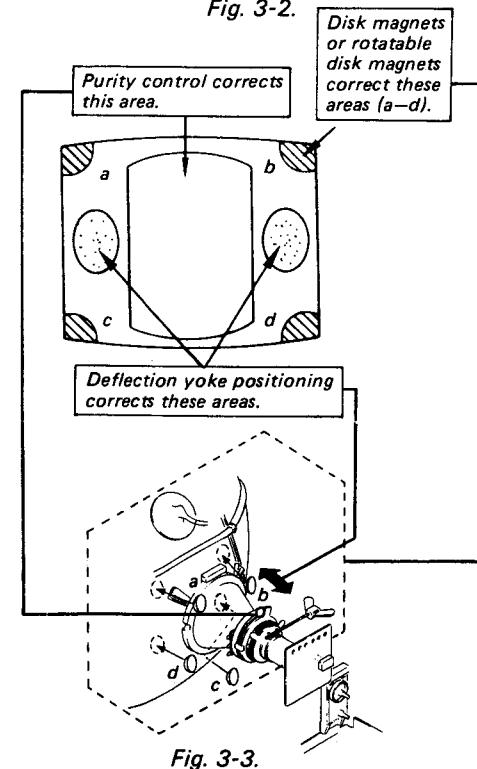

Fig. 3-3.
- When landing is not right, adjust the purity control and use magnets as shown in Figure 3-3, then repeat steps 7 and 8.